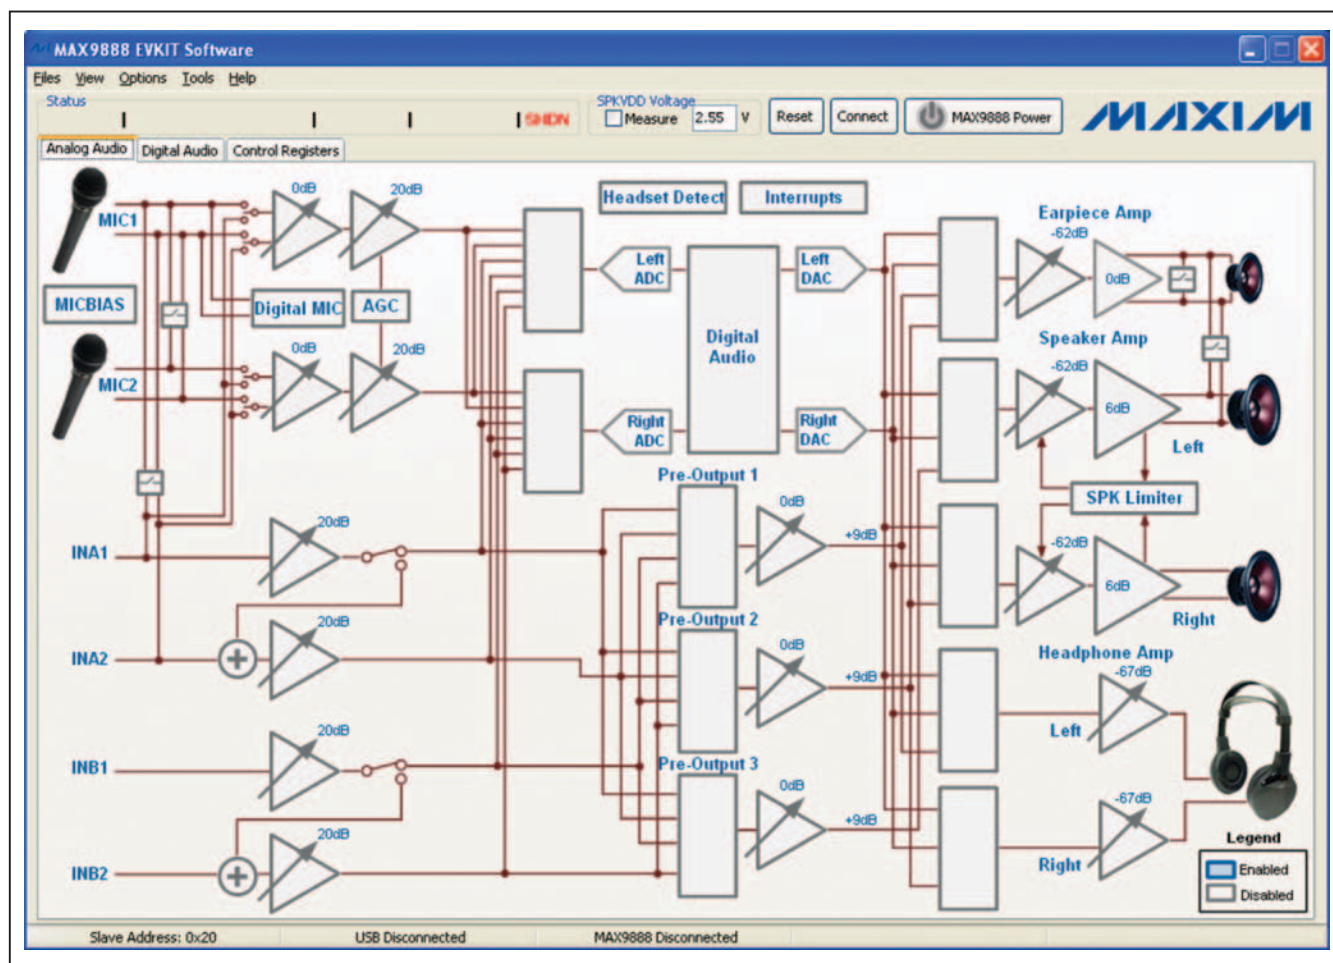
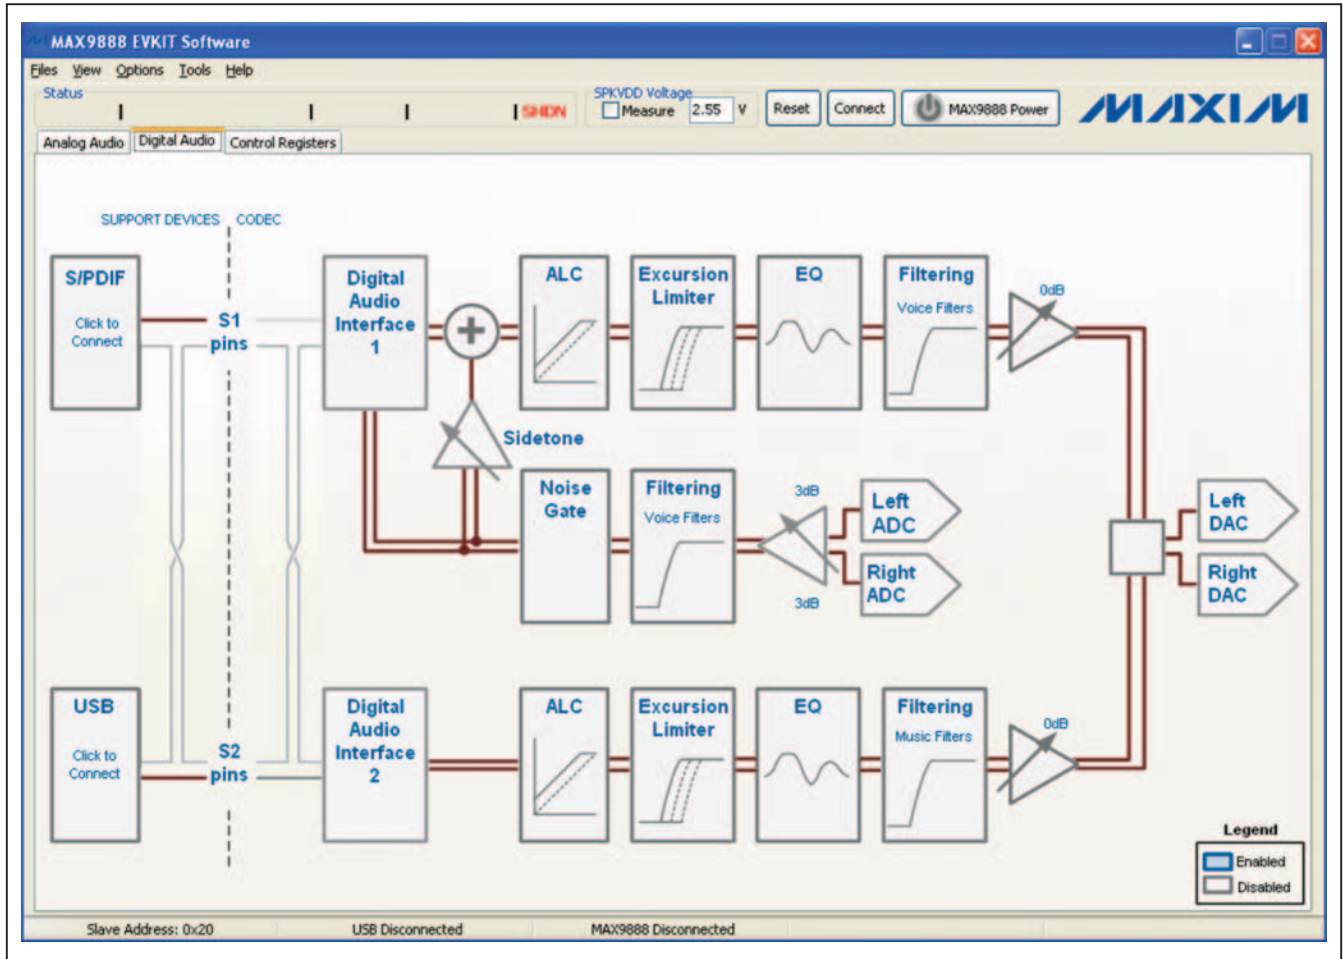

Figure 2. MAX9888 EV Kit Software Main Window (Analog Audio Tab)
Figure 3. MAX9888 EV Kit Software Main Window (Digital Audio Tab)
- 7) Start the EV kit software by opening its icon in the **Start | Programs | Maxim EVKIT Software** menu. The EV kit software main window appears, as shown in Figure 2.
The MAX9888 EV kit software uses a block diagram interface to control all the functions of the MAX9888 audio codec. Click on blocks on the **Analog Audio** tab (Figure 2) and **Digital Audio** tab (Figure 3) to control various functions of the device. Each block that represents multiple control options displays a dialog box containing all available controls for that block. Blocks that represent a single option toggle the enable of that function when clicked. Blocks colored grey are disabled while blocks colored blue are enabled. Click on the **MAX9888 Power**